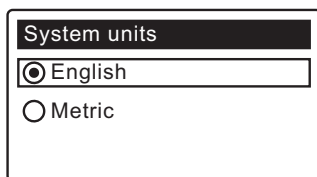

FIG. 17
- 3. SYSTEM UNITS** If the desired system already has a black dot next to it (See Figure 17), go to Step 4. Otherwise, press the DOWN (▼) or UP (▲) buttons to scroll to the desired system, then press the SELECT (○) button to choose it.